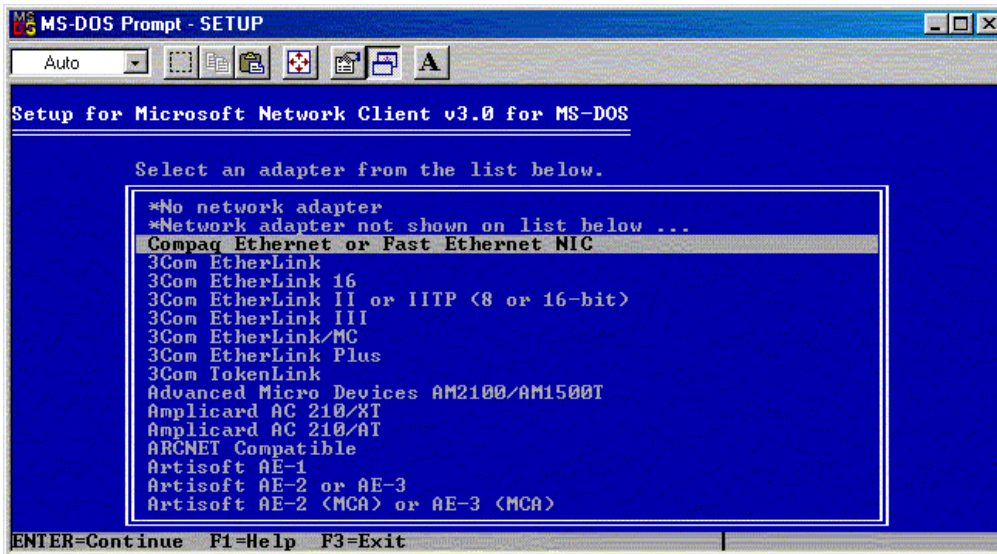

Figure A-8: Network adapter selection
5. Accept the default installation directory and press the **Enter** key to continue. The Network Client 3.0 determines the drivers that are available for installation and displays a selection screen similar to Figure A-8.